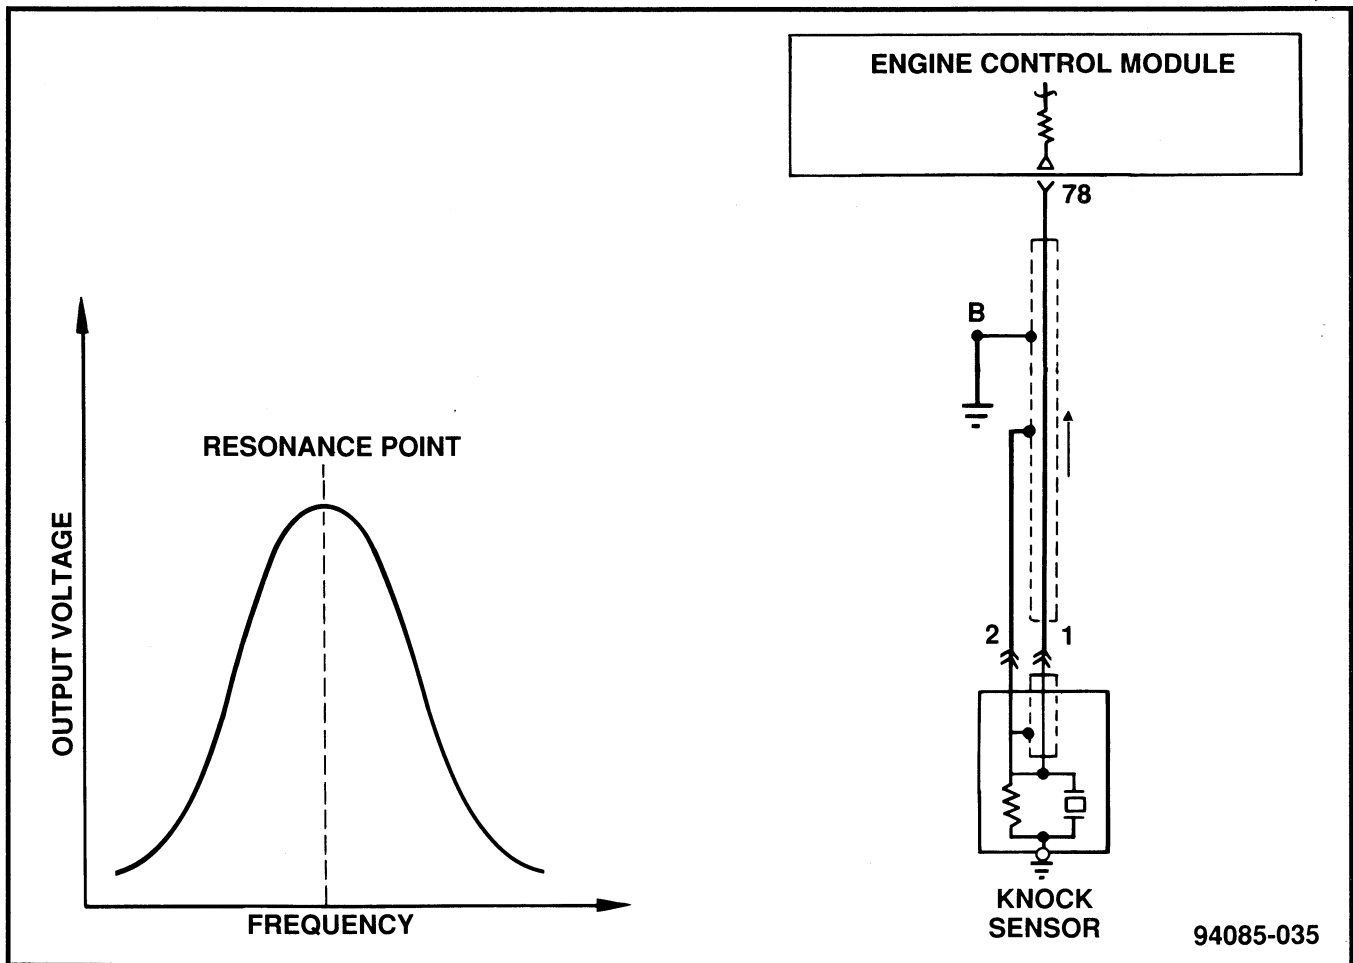

Figure 33 Knock Sensor Circuit
The Knock Sensor uses a 2-way connector. Pin 1 (WT) goes to ECM pin 78, and pin 2 (BK/WT) is connected to ground (fig. 33). The wire to the ECM is shielded to prevent electrical interference from affecting the Knock Sensor circuit. The Knock Sensor is grounded to the engine block. The amount of voltage the ECM receives determines the amount of timing retard that takes place.